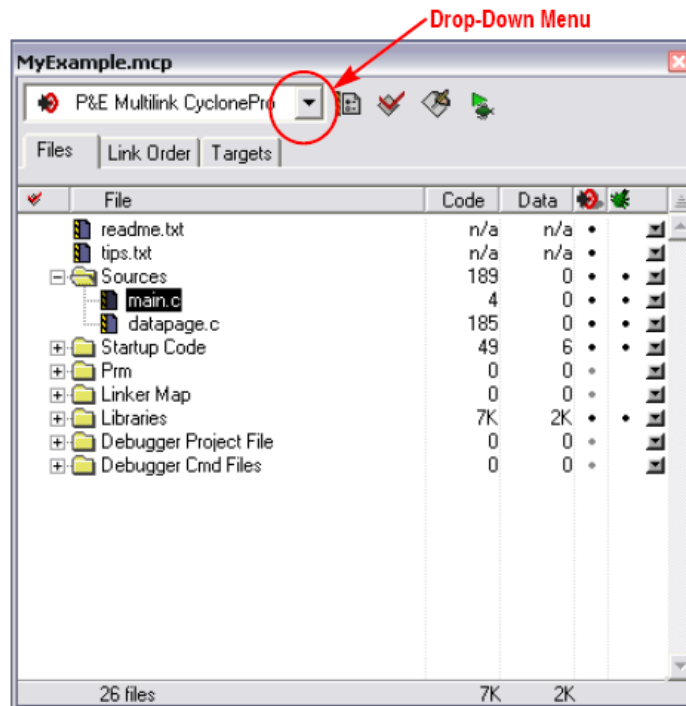

Figure 14. CodeWarrior Project Window
- u) Click Finish — the wizard creates a new project based on information you specified. A project window will appear, docked at left side of main window (see Figure 14).
- a) Click the drop-down menu of the project window (see Figure 14).
- a) Click the + sign next to the sources folder to reveal files (see Figure 14).